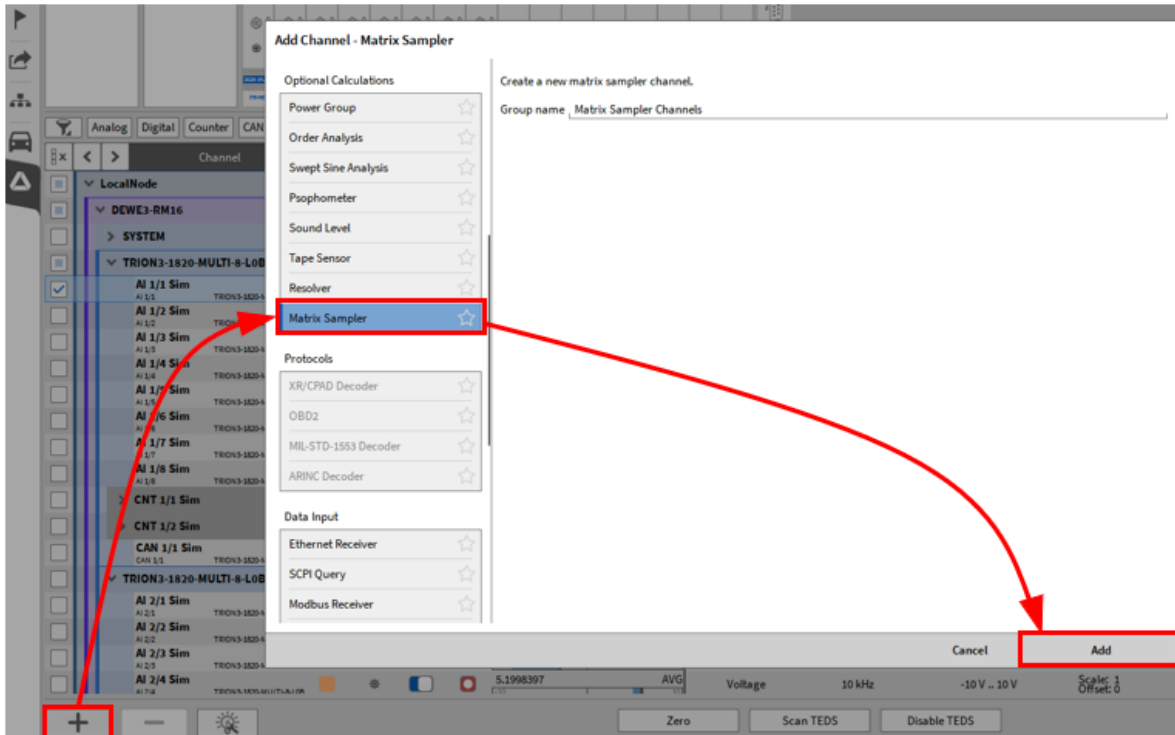

Fig. 7.142: Creation of a Matrix Sampler channel from channels in the channel list
1. Select at least one channel which should be used as reference channel (X, Y and input channel Z) in this order (channels can also be changed afterwards). Click on the + button in the lower left corner, select *Matrix Sampler* in the list and click on the *Add* button (see Fig. 7.142).